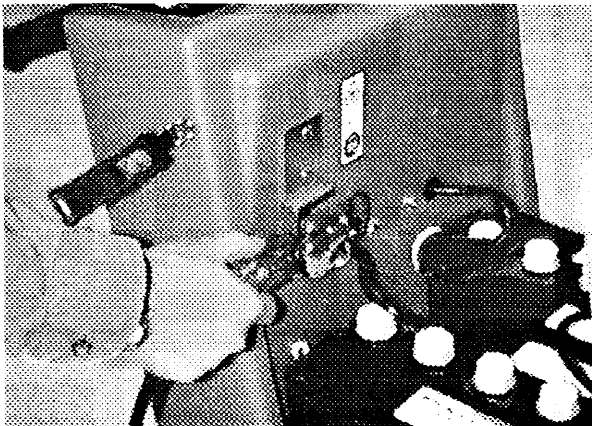

Fig. 11.
6. Plug charger into charger receptacle located near battery cable connections. (Fig. 11)